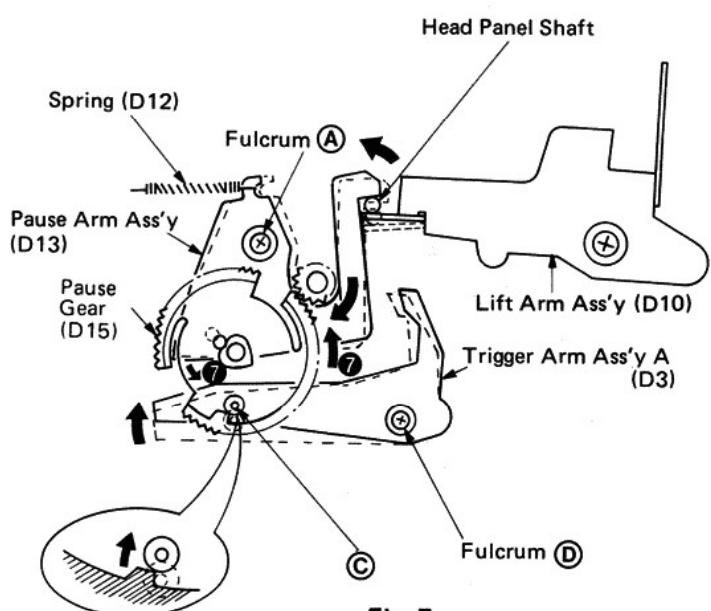

Fig. 7
- 1 When the PAUSE button is pressed, the trigger arm assembly A (D3) begins to turn around the fulcrum **(D)** and is disengaged at point **(C)**. The pause gear (D15) is rotated slightly in direction **⑦** by the force of spring (D12). (Fig. 7)